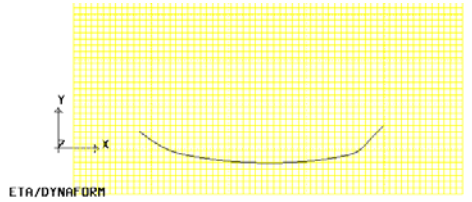

Figure 6.4.14 Select drawbead Outline
- Select a line as shown in Figure 6.4.14.